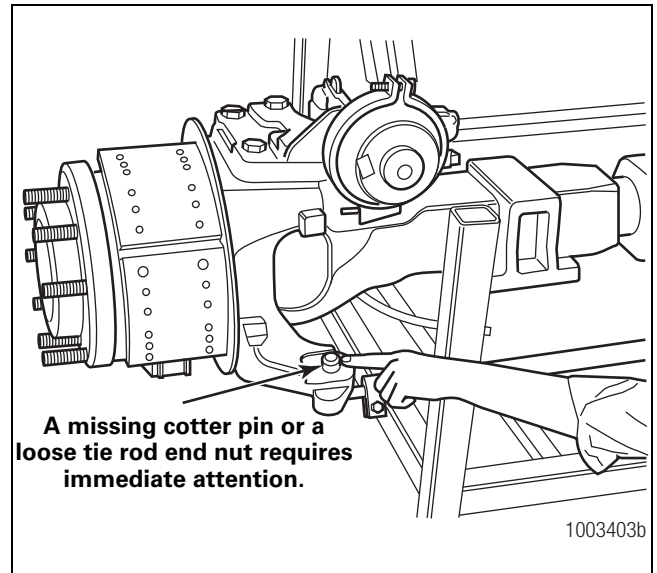

Figure 10.12
- If the cotter pin is missing:** Check the nut torque specification. Install a new cotter pin. Always tighten the tie rod nut to 300 lb-ft (407 N•m) when installing the cotter pin. Figure 10.12.